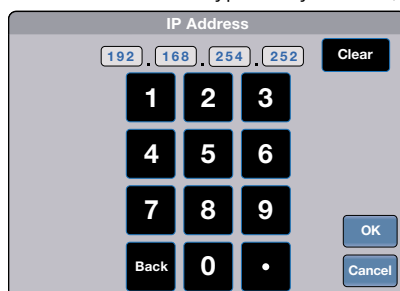

Figure 17. Numeric Pad for Setting IP Addresses
- When DHCP is off, the **Host Name** is grayed out and cannot be edited. All addresses can be edited (as shown in figure 17, on the next page).